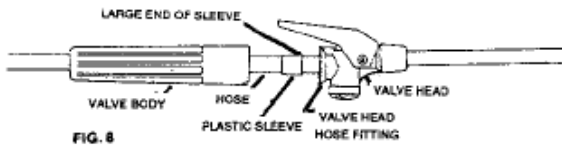

FIG. 8
- Slide valve body back along hose to expose connection of hose with valve head. SEE FIG. 8
- (a) Slide plastic sleeve over hose (larger end of tapered sleeve toward end of hose.) SEE FIG. 8